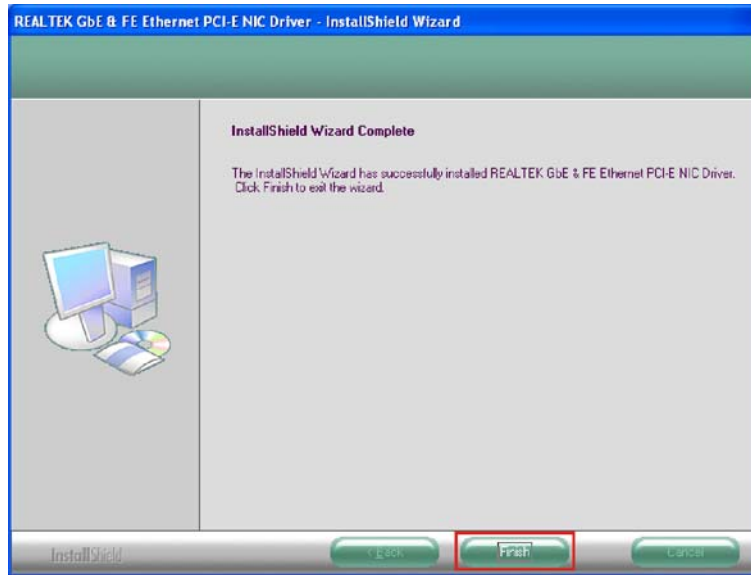

Figure 7-19: Device Manager List
Step 8: The installation is complete (**Figure 7-19**).